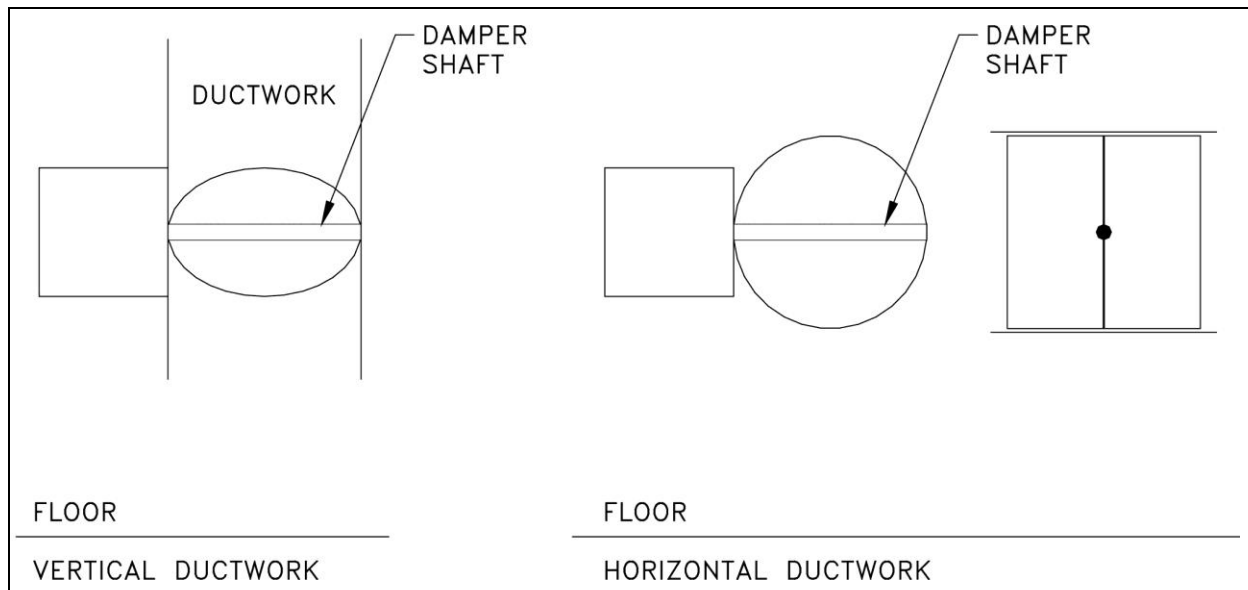

Figure 9: Proper Damper Mounting
2. The damper must be installed with the damper shaft parallel to the ground (Figure 9).